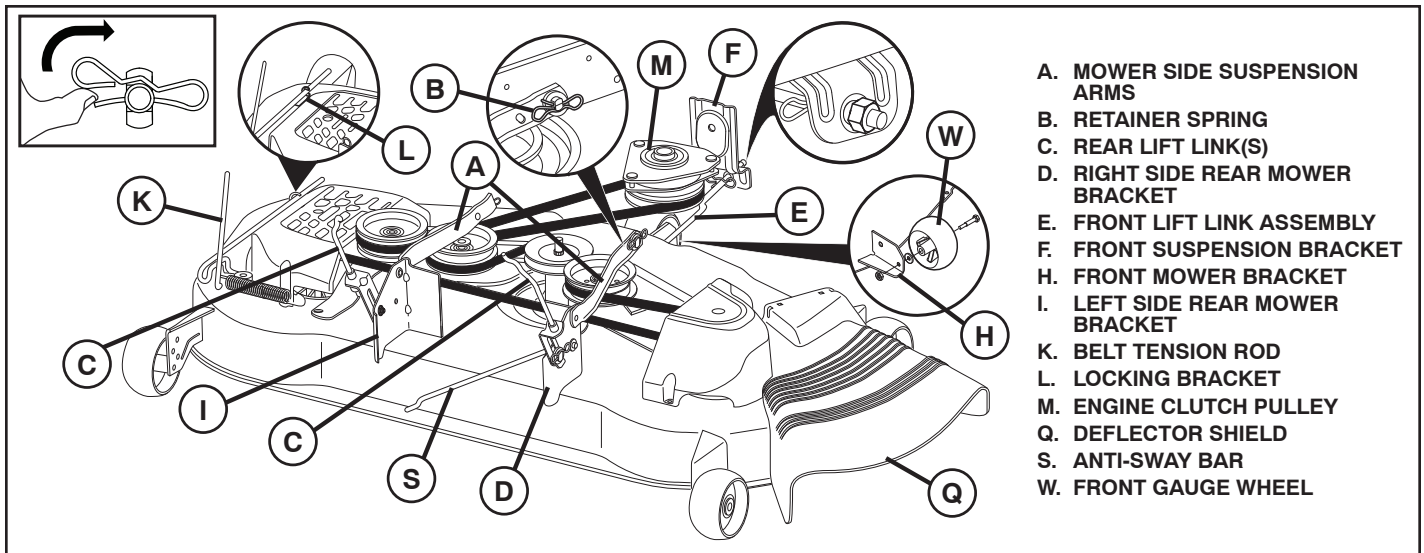

Fig. 6
9 INSTALL BELT ON ENGINE CLUTCH PULLEY (M) (See Fig. 6 & 14)
- Disengage belt tension rod (K) from locking bracket (L).
- Install belt onto engine clutch pulley (M).